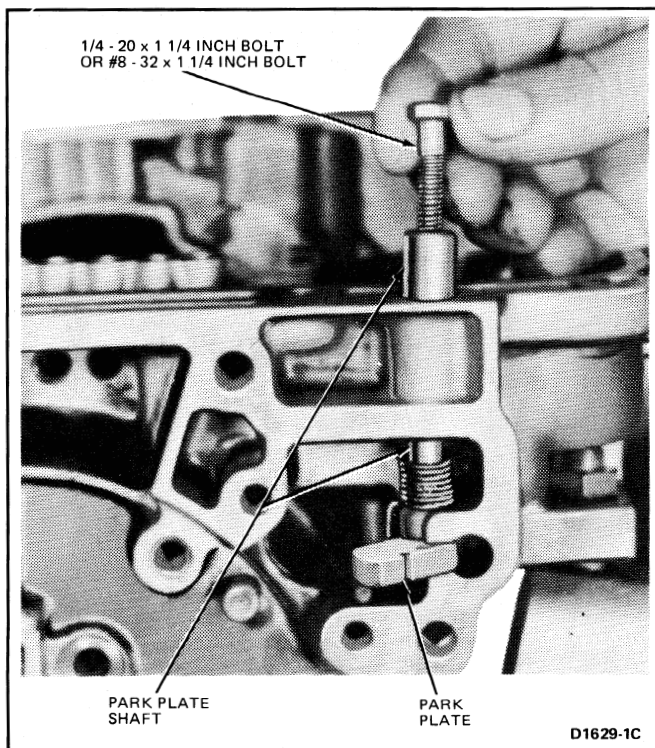

FIG. 33 Removing Park Plate
- Thread a 1/4-20 inch or 8-32 x 1-1/4 inch screw (Fig. 33) into the park plate shaft. Pull the shaft from the case with the screw. Remove the spring and park plate.